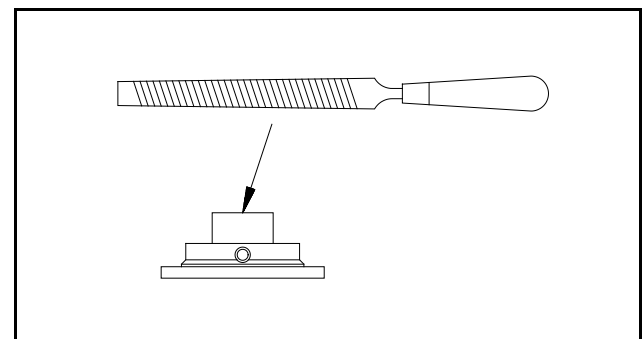

Figure 10.
- 5.5 **To file the clutch hub,** move the handle back to the shipping position. Remove the Quick Chuck. Insert the hex wrench into the 1/4" hole and pry out the clutch. (If the clutch is stuck, go to step 7.1.1.) File or grind the end of the clutch hub a little to shorten it. See Figure 10. Slide the clutch onto the shaft. Fasten the Quick Chuck to the adapter again and move the handle clockwise until it stops. If the handle is still too low, shorten the clutch hub some more. You must add a spacer if you shorten it too much. When the handle rests between 9:15 and 10:00, go to step 5.6.